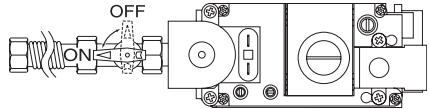

Figure 34 - Turning Equipment Shutoff Valve to the OFF Position
5. Turn equipment shutoff valve clockwise to the OFF position (see Figure 34). Do not force.
6. Wait five (5) minutes to clear out any gas. Then smell for gas, including near the floor. If you smell gas, STOP! Follow "B" in the safety information, column 1, page 19. If you don't smell gas go to the next step.